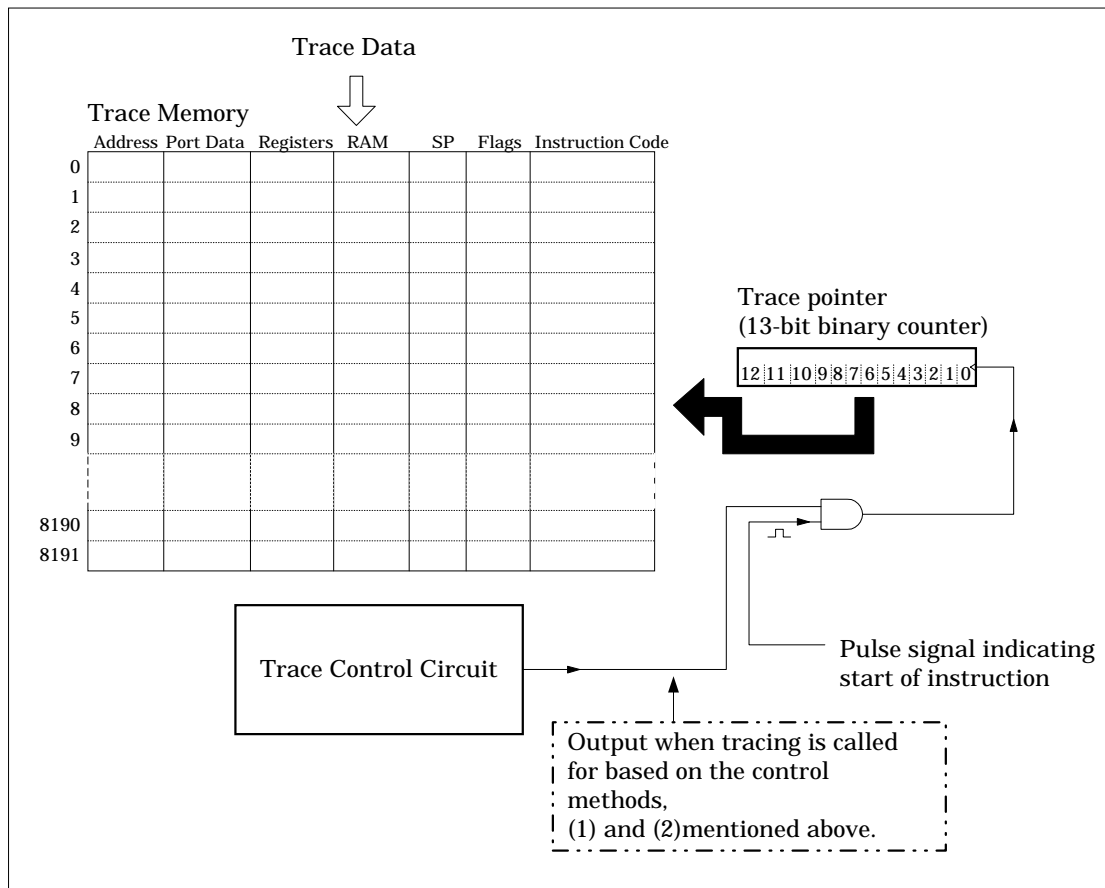

Figure 3-2 Trace Control Conceptual Diagram
The trace pointer controls the address in trace memory to which data will be written. The trace pointer is actually a 13-bit counter which increments every time an instruction is executed under the conditions described in (1) and (2) above (refer to Figure 3-2).